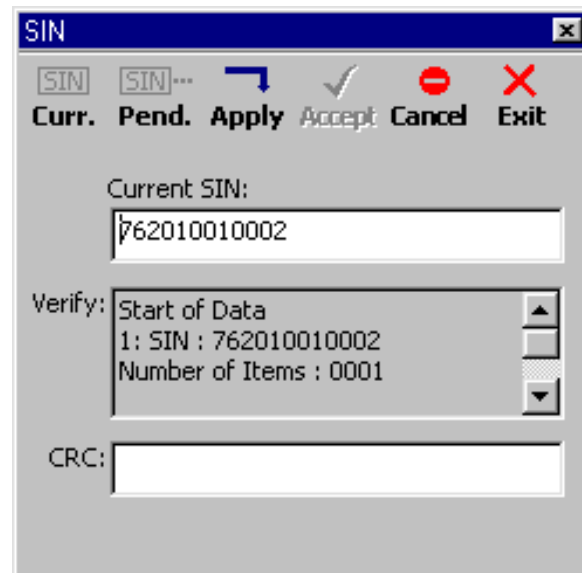

Figure 3-61
1. Using the GDT, bring up the **SIN** screen (Configure menu/Set SIN). The **SIN** screen (figure 3-61) is displayed presenting the “Current SIN” in a text box.
2. The current SIN is also displayed in a “Verify” list box immediately below the “Current SIN” text box (refer to figure 3-61). The current SIN in the text box must match the SIN in the “Verify” list box.